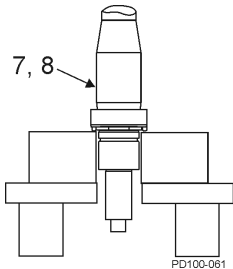

Figure 45 - Grease shaft
1. Lubricate the front bearing area of the shaft (Figure 45, item 7, 8) with oil or grease. See "Lubrication" on page 18. Place the shaft and bearing assembly upright in a hydraulic press with the liquid end facing down.